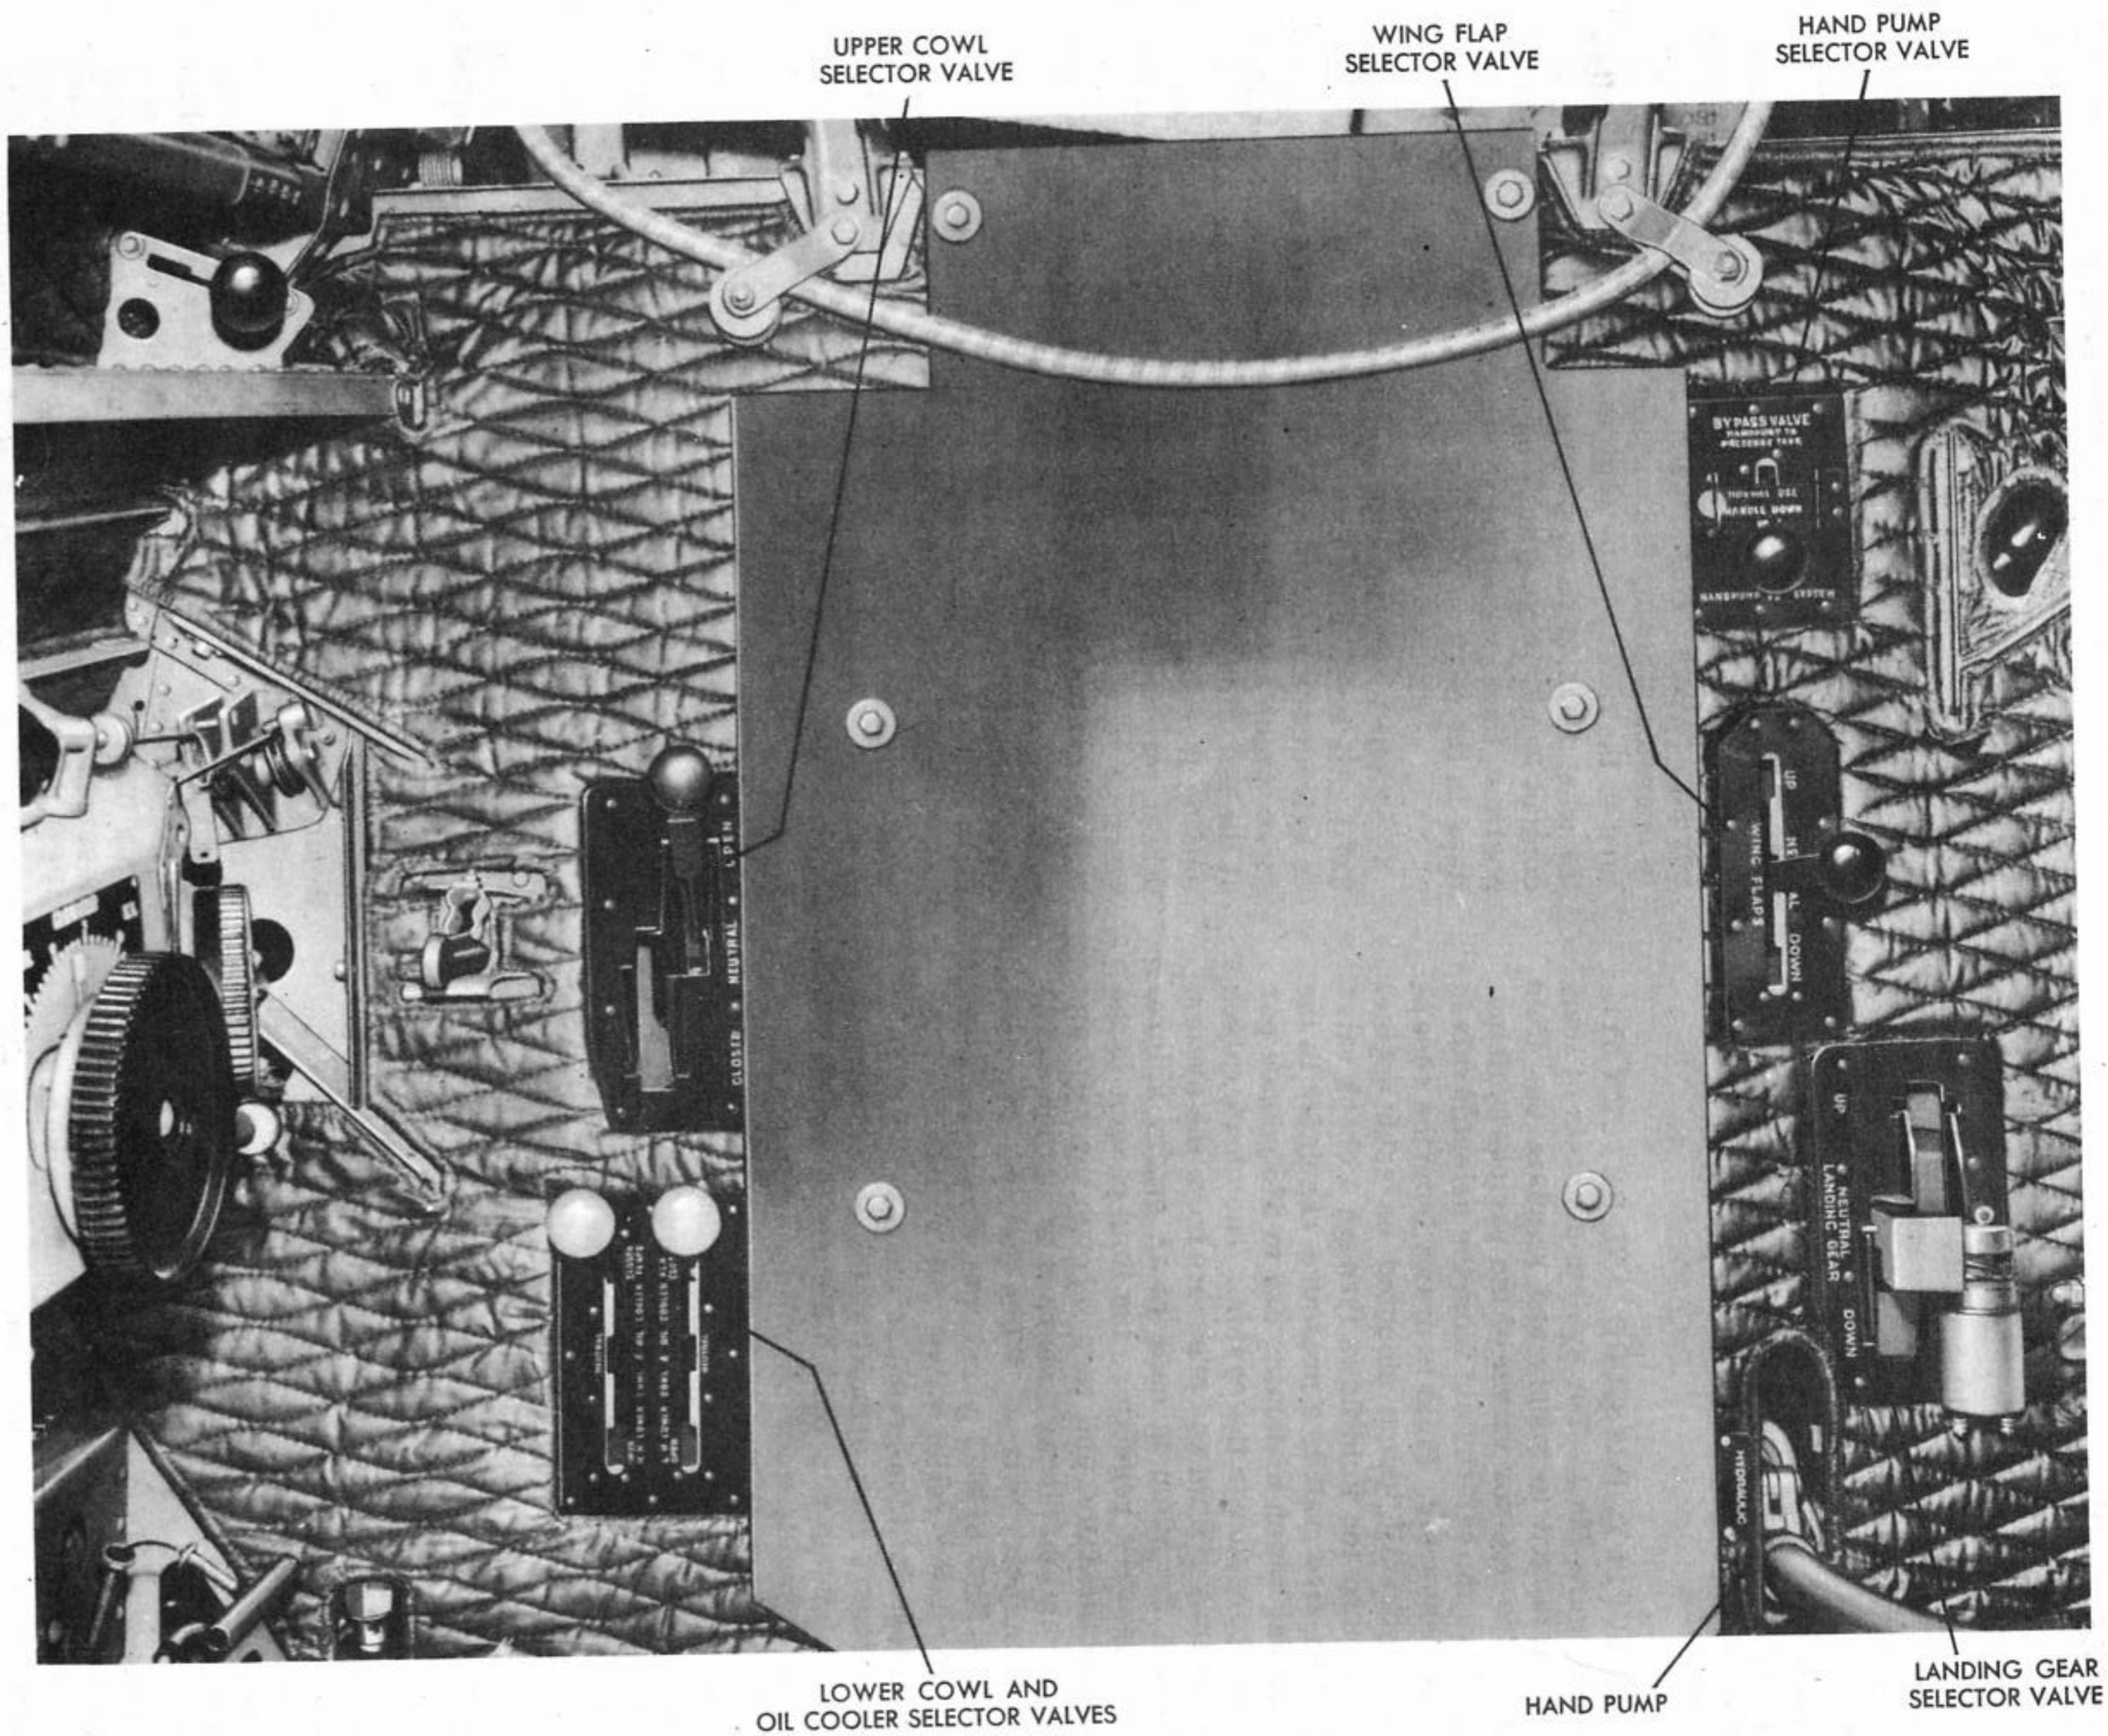

Figure 183 - HYDRAULIC SYSTEM CONTROL VALVES
(3) WING FLAP SYSTEM. (See figure 226.) - Operation of the wing flaps is controlled by a selector valve (figure 183) located on the panel to the left of the pilot's seat. Two actuating lines extend aft along the left-hand side of the fuselage. A tee in the DOWN line directs the fluid through two lines, one of which attaches to the side of the relief valve, while the other continues along the left-hand side of the fuselage to the aft bomb bay. At this point a tee diverts the lines into each inner wing section along the rear shear web. The lines terminate in flexible hoses at the points of attachment to the actuating struts. When the selector valve control handle is moved to the UP position, pressure is applied to the aft port of each actuating strut, forcing the piston forward, and displacing the fluid forward of piston.
(6) COWL FLAP SYSTEM. (See figure 228.) - Upper cowl flaps of each engine section are operated simultaneously by a single selector valve while each of the lower cowl and oil cooler flaps is operated independently by a separate selector valve. (See figure 183.)